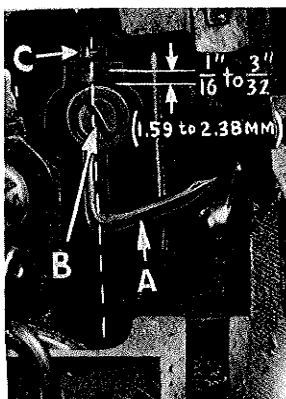
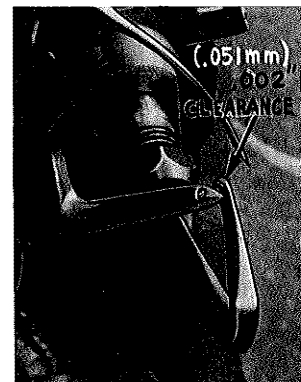

Fig. 8
Fig. 9
Insert upper looper (A, Fig. 8) in its holder. Screw (B) holds upper looper in its holder and permits it to be pushed in or out or turned around its shank. Insert upper looper holder into upper looper shaft, if it is not already in place. Screw (C, Fig. 8) on clamp holds the upper looper holder in the shaft. Locate upper looper in its holder so that the shank extends  $\frac{1}{16}$  to  $\frac{3}{32}$  inch (1.59 to 2.38 mm) beyond holder (Fig. 8), for Styles 39500 QL, QN, QV, QX, RU, SR, SX and TY;  $\frac{1}{32}$  to  $\frac{1}{16}$  inch (.79 to 1.59 mm) for Styles 39500 RP and TG.
When the upper looper is at the right end of its stroke, upper looper holder should be set to position upper looper shank about vertical on Styles 39500 QN, QV, QX, SX and TY (Fig. 8). On Styles 39500 QL, RP, RU, SR and TG the upper looper holder should be set to position the upper looper shank slightly back of vertical. Be sure, on all Styles, there is a clearance between heel of looper and the casting. By adjusting looper holder in or out of upper looper shaft and by turning the looper around its shank, set upper looper point to cross lower looper to the left of the lower looper eye with .002 to .004 inch (.051 to .102 mm) clearance (Fig. 9).
NOTE: For the dimensional settings of the other Styles refer to Fig. 11. For example,  $\frac{1}{2}$  inch (12.70 mm) dimension is increased by turning upper looper holder counterclockwise, looking from left end of machine;  $\frac{5}{32}$  inch (3.97 mm) dimension is increased by pulling upper looper holder to the left, out of upper looper shaft. After these changes are made it may be necessary to turn upper looper around its shank slightly to maintain the condition shown in (Fig. 9).
Check setting to avoid interference between upper looper and needle on needle downstroke. If needle rubs the back of upper looper, pull looper out of its holder slightly and rotate looper a short distance counterclockwise, looking from left end of machine. Reset to maintain dimensions of Figs. 9, 10, 11, 12.